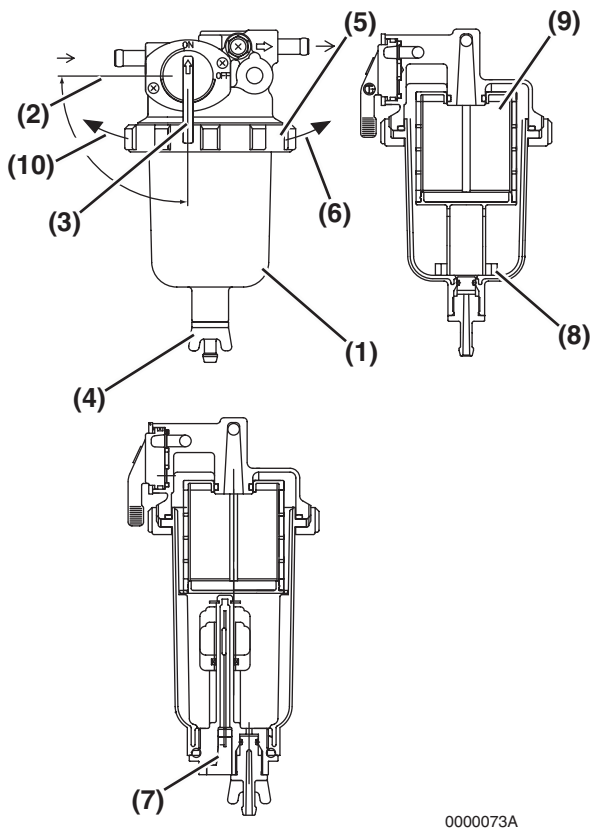

Figure 5-15
1. Position an approved container under the cup (**Figure 5-15, (1)**) of the fuel filter / water separator to collect the contaminants.
2. Close (**Figure 5-15, (2)**) the fuel cock (**Figure 5-15, (3)**).
3. Loosen the drain cock (**Figure 5-15, (4)**) and drain the contaminants. *See Drain Fuel Filter / Water Separator on page 5-23.*
4. Turn the retaining ring (**Figure 5-15, (5)**) to the left (**Figure 5-15, (10)**) and remove the cup (**Figure 5-15, (6)**). If equipped, disconnect the sensor wire (**Figure 5-15, (7)**) from the cup before removing the cup.
6. Remove the float ring (**Figure 5-15, (8)**) from the cup. Pour the contaminants into the container and dispose of it properly.
7. Clean the element (**Figure 5-15, (9)**) and inside cup. Replace the element if it is damaged.
11. Install the cup to the bracket by tightening the retaining ring to the right (**Figure 5-15, (6)**) to a torque of 11 - 15 ft·lb (15 - 20 N·m; 1.5 - 2.0 kgf·m).
13. Open the fuel cock (**Figure 5-15, (3)**).